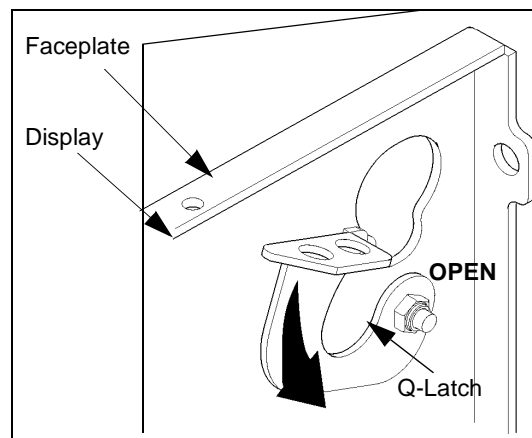

Figure 8: Open Q-Latch
1. Make sure Q-Latch is in the OPEN position so it will not obstruct display installation (See Figure 8).